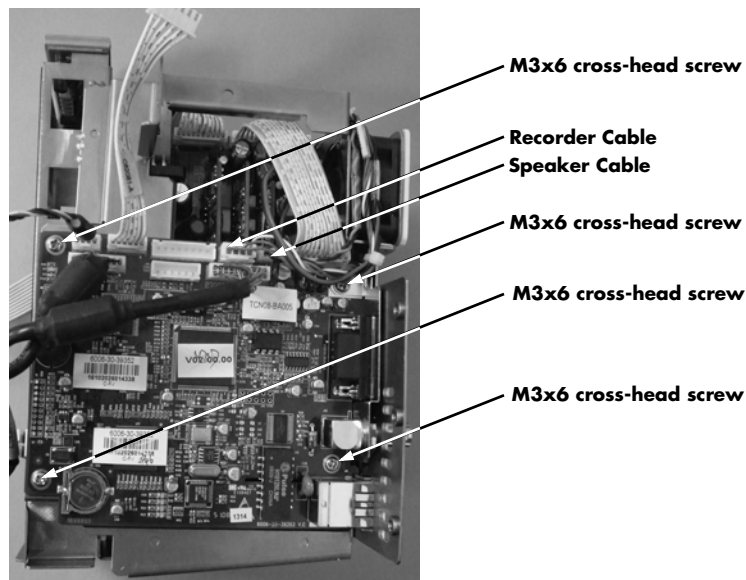

FIGURE 4-19 Unplug (2) two cable connectors and remove four (4) M3x6 cross-head screws.
3. Unplug the speaker cable (J10) from the Main board (see FIGURE 4-19).
4. Unplug the recorder cable (J8) from the Main board (see FIGURE 4-19).
5. Take out the main board by removing the four (4) M3x6 cross-head screws (as shown in FIGURE 4-19).